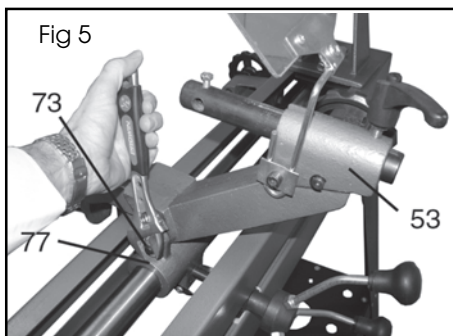

Fig 5
1. Position the copy follower body (53) over the lead screw 3-way trunnion (77) and connect it using the copy pivot stud (73) and tighten the nuts on each side as shown in Fig 5.